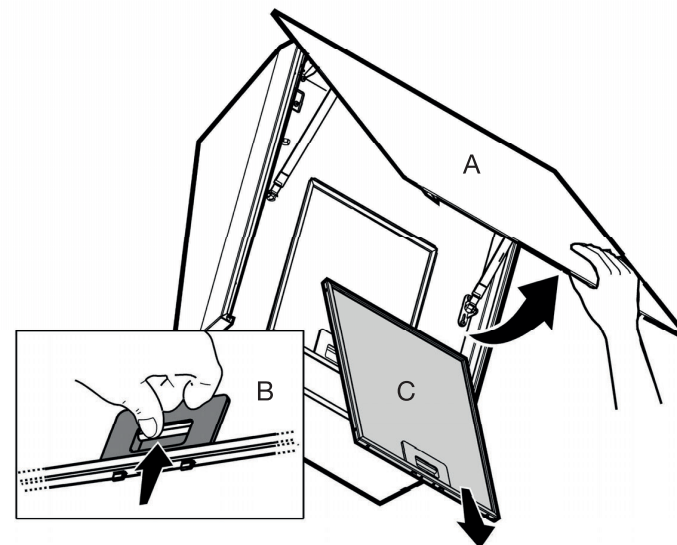

Figure 5
2. **To remove the grease filter** (Fig. 5), push the glass panel upwards (A), push the filter tab backwards (B), and then release the filter by pulling it downwards (C).